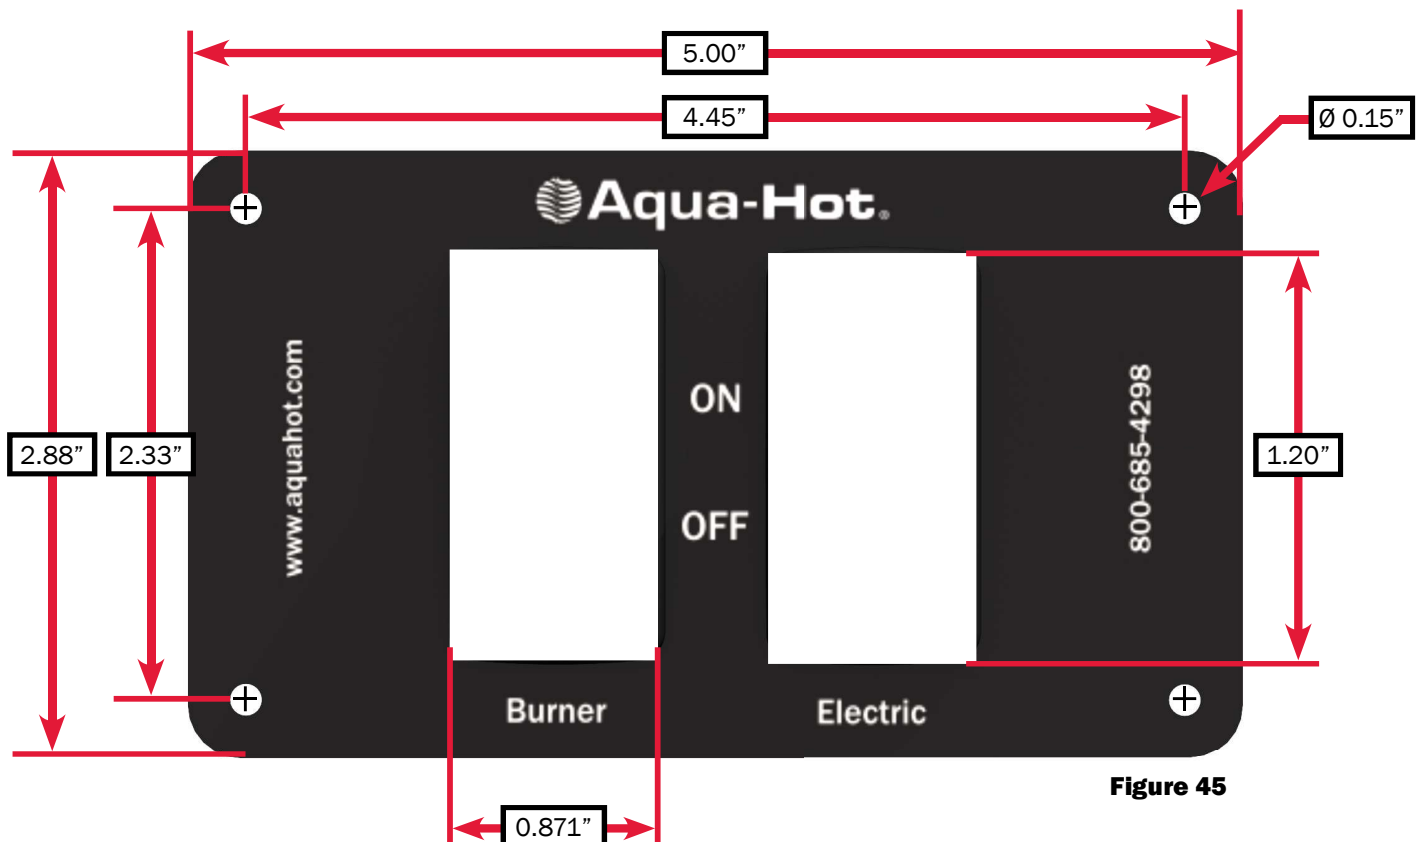

Figure 45
1. Cut out a 3.75" W x 1.25" H opening for the switch panel plate. Reference Figure 45.